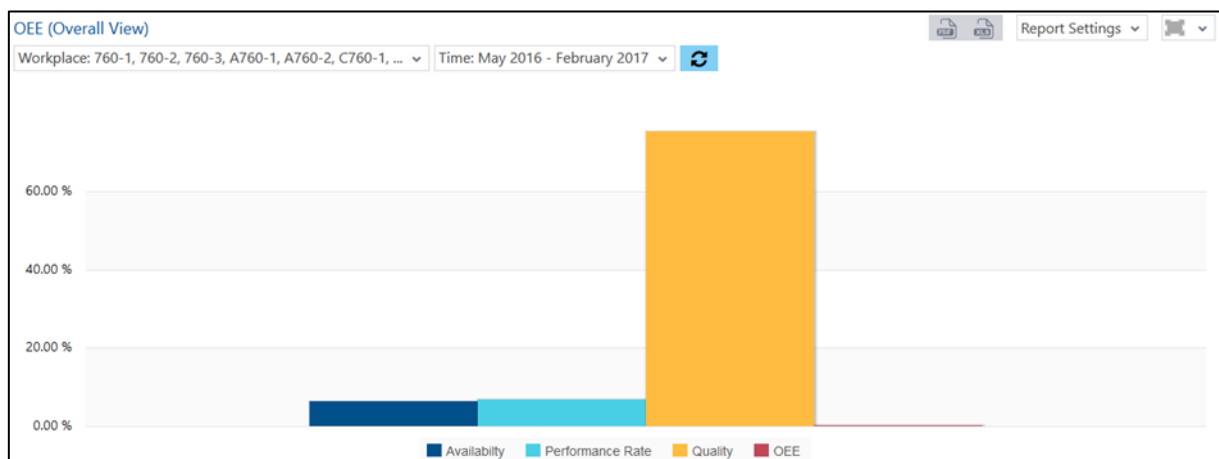

Fig. 43: OEE (overall view) as column chart
- OEE (overall view) as a column chart (fig. 43):